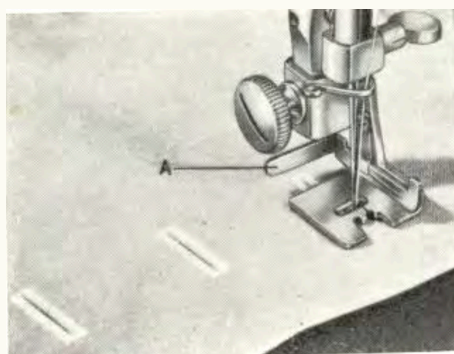

Fig. 26.
5. Adjust the gauge on the buttonhole foot (A, Fig. 26) to the length required for the buttonhole. The size of the buttonhole will correspond to the distance from the needle to the gauge. Make the buttonhole about 3/16 to 1/4 in. longer than the size of the button.
2. Place one end of the buttonhole marking under the needle, with the rest facing towards you. Lower the presser foot and start sewing. Stop when the first stitch reaches the gauge (A, Fig. 26).